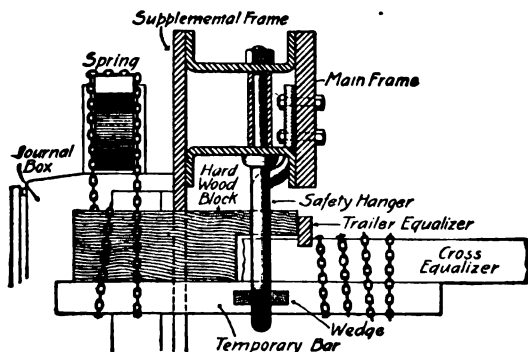
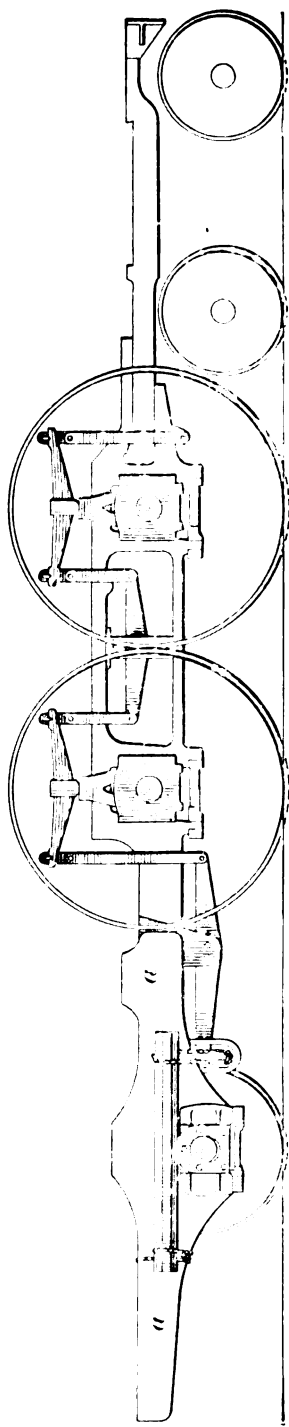

FIG. 45.
FIG. 44.
**96.** Besides the usual main frames of the engine, the Northwestern type engine has a short supplemental frame, marked *a*, Fig. 44, also Fig. 45. This frame is outside of the
the supplemental frame and the lower hanger pin. After chaining the tie, remove the block from the safety hanger below the cross-equalizer so as to throw the weight on the trailer box. This method of blocking, Fig. 44, gives the use of all the springs on the engine except the broken one, the engine riding rigidly upon that trailer wheel.
**99.** Should a cross-equalizer on a Northwestern type engine break, as shown in Fig. 45, it will allow the back end of the engine to settle down on that side, since there will be nothing there to support the front end of the trailer spring. In order